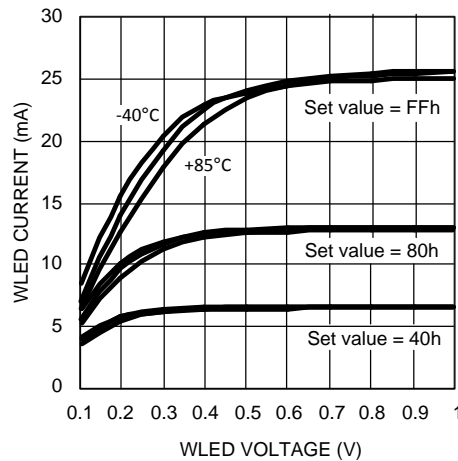

Figure 26. WLED Output Current vs Voltage
(1) A minimum voltage, Dropout Voltage, is required on the WLED outputs for maintaining the LED current. The current reduction at lower voltages is shown by the graph in Figure 26.
(2) Match % = 100% * (Max – Min)/Min